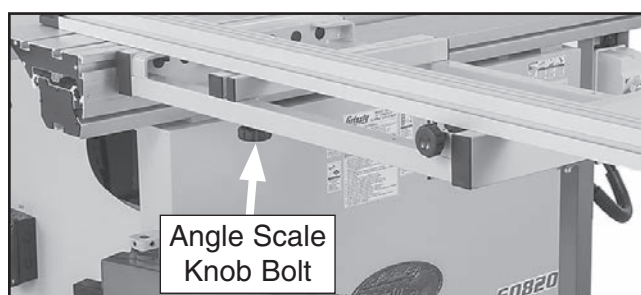

Figure 117. Location of angle scale knob bolt.
4. Install angle scale knob bolt (see **Figure 117**).